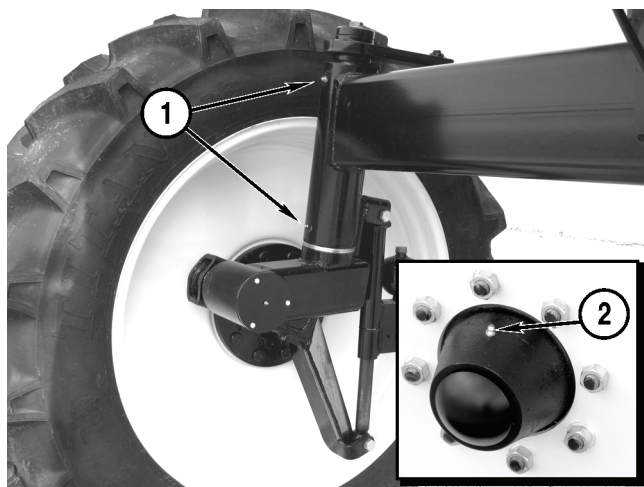

Figure 5-23
1. The king-pin at each front wheel has two grease fittings. Apply lithium grease through the two king-pin grease fittings (Figure 5-23, 1) at each front wheel.
2. Apply lithium grease through the hub grease fitting (Figure 5-23, 2) on each front wheel.